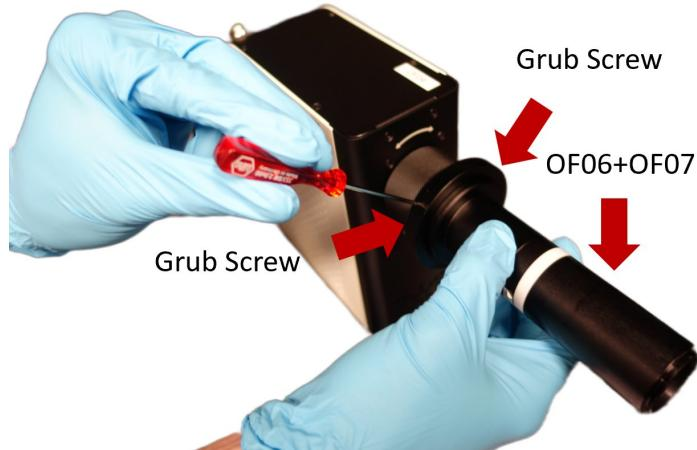

Figure 14: Tightening the three grub screws.
6. Secure OF06 with three grub screws using the 2mm Hex key driver (T02) (see Figure 14).